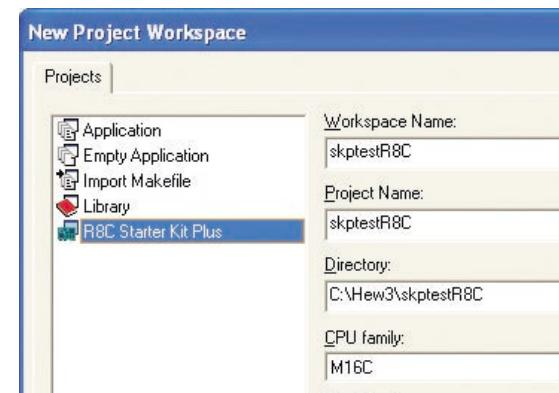

Figure 2. New Project Workspace in HEW
- Select “R8C StarterKit Plus” (Figure 2).